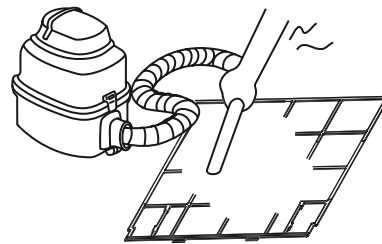

Fig.6-2
- *The air-in side should face up when using vacuum cleaner. (Refer to Fig 6-2)*